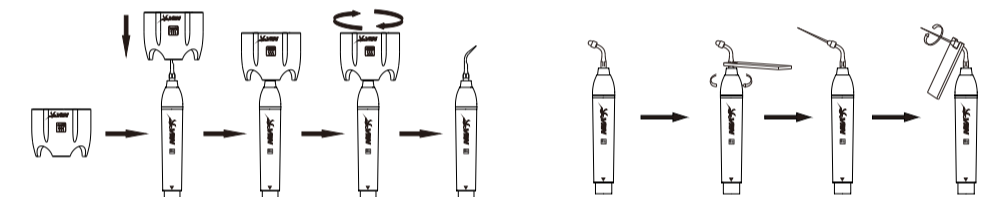

Figure 5
2.1.2 Instruction of wrench using(See figure 5)